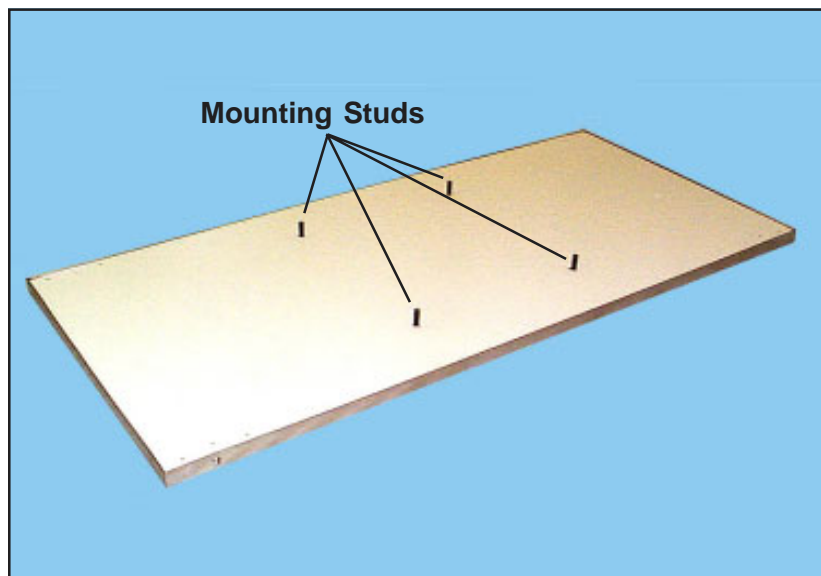

Figure 11. Underside of Exam Top Showing Studs
1. With a 1/2 in. wrench, remove the nuts and washers from the mounting studs under the exam top (Figure 11).
2. Place the exam top on the unit so that the mounting studs under the top enter the matching holes on the unit frame (Figures 11, 12, and 13).